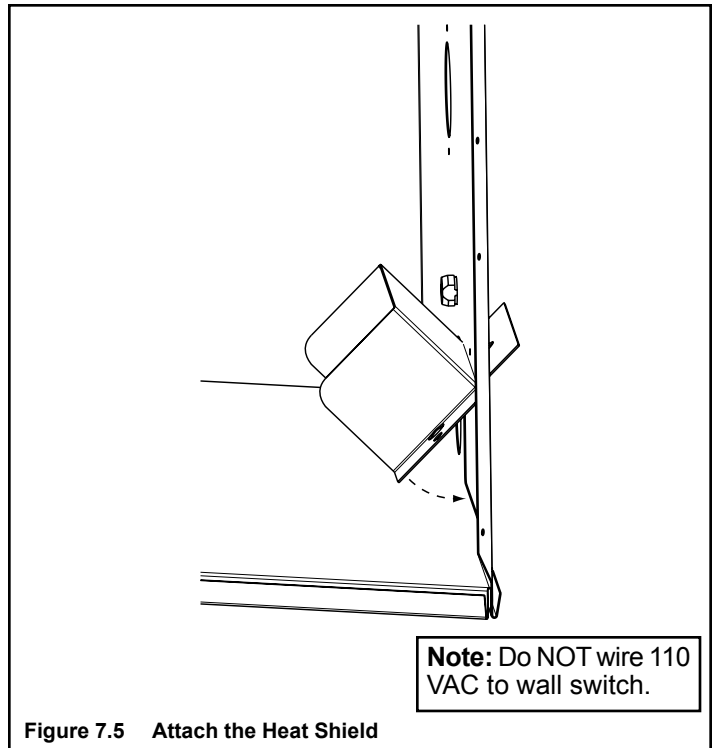

Figure 7.5 Attach the Heat Shield
- Prior to attaching the junction box to the appliance, the heat shield supplied with your appliance must be installed. Insert the top flange of the heat shield through the electrical knockout hole from the inside (Figure 7.5).
- Attach the junction box bracket to the side of the appliance by slipping the bottom flange into the knockout hole. See Figure 7.5. Secure with the three screws provided in the fastener package.